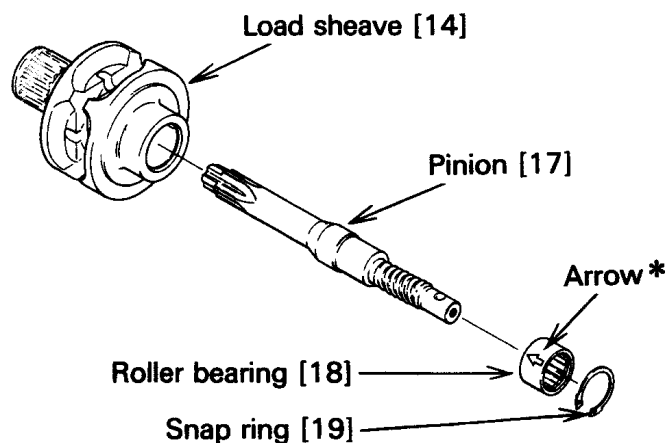

Figure 6-1 Load Sheave/Pinion Assembly
- Apply Harrington lubricating grease (Part No. ER1BS1951) or an equivalent to industrial general lithium grease, NLGI No. 0, to the bearing surfaces of the load chain links as indicated by the shaded areas in Figure 6-1. Also apply the grease to the areas of the load chain (shaded areas in Figure 6-1) that contact the load sheave. Insure that the grease is applied to the contact areas in the load sheave pockets.
***NOTE:** The arrow* on the outer side of the roller bearing should face the gear side. When inserting, use a screwdriver on the bearing and tap it with a rubber mallet. See Fig. 6-1.